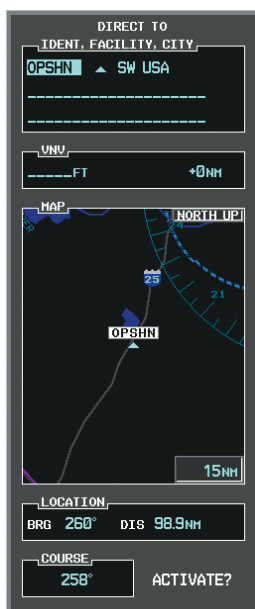

Figure 5-121 Direct To OPSHN
c) Press the **Direct-to** (D➤) Key. The Direct-to Window is now displayed as shown in Figure 5-121.